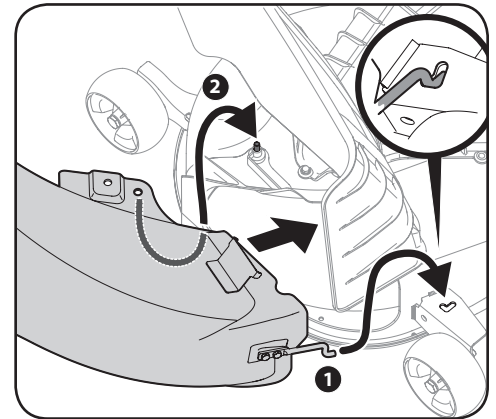

Figure 4-27
4. Insert the end of the discharge chute elbow (1) into the hole provided in the deck wheel mount as shown in the inset of Figure 4-27.
5. Pivot the discharge chute rearward until the hole in the discharge chute elbow aligns with the pin on the deck adapter. Move the discharge elbow down onto that pin as shown in 2 of Figure 4-27.